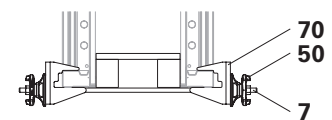

Fig. B7.04a
- Top Tie Holder-2 AH (70) with Tie Rod DW15 (7) and Wingnut Pivot Plate DW15 ga (50). (Fig. B7.04a)